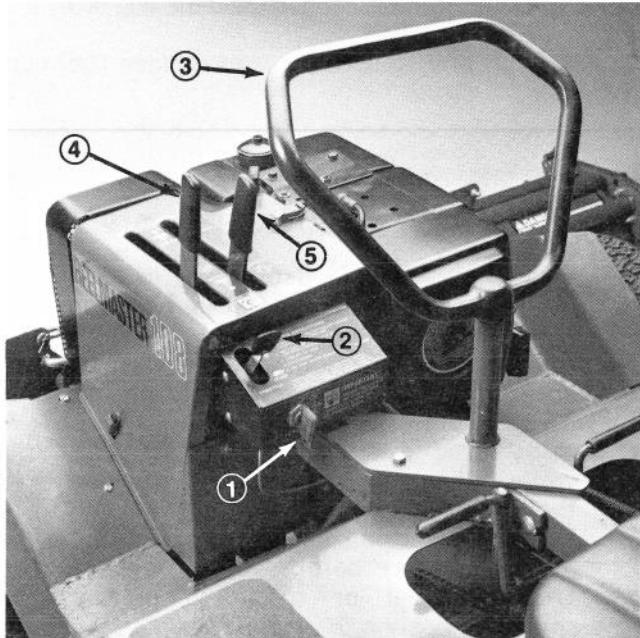

Figure 11
2. Ignition Switch (Fig. 11) — On control panel at left of engine. Turn key to RUN position before pulling recoil starter handle to start engine. Turn key to OFF position to stop engine.
3. Throttle Lever (Fig. 11) — In control panel, left side of engine. Move between FAST and SLOW positions to regulate speed of engine and control speed of mower.
5. Steering Wheel (Fig. 11) — Use to guide machine in proper direction.
6. Traction Control Lever (Fig. 11) — Push forward for forward traction; pull rearward and hold firmly for reverse operation. Return lever neutral before stopping engine and leaving machine.
7. Cutting Unit Control Lever (Fig. 11) — Push forward to ENGAGE reels. Pull rearward to DIS-ENGAGE cutting units.
STARTING/STOPPING ENGINE (Fig. 11 & 12)